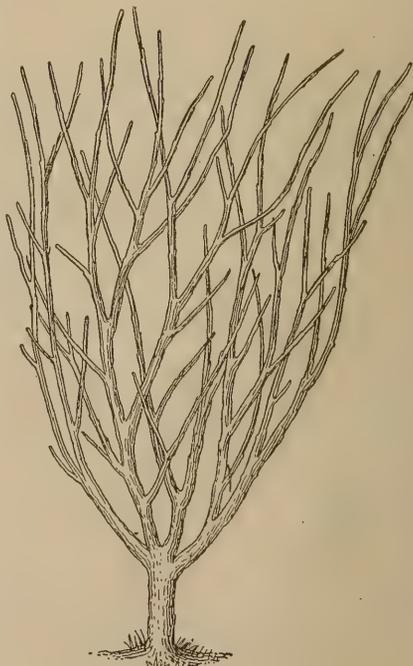

Fig. 84.—Vase form.
3. The vase or goblet form, which is obtained by cutting out the central stock or leader and training by a system of pruning into the shape as shown in Fig. 84.